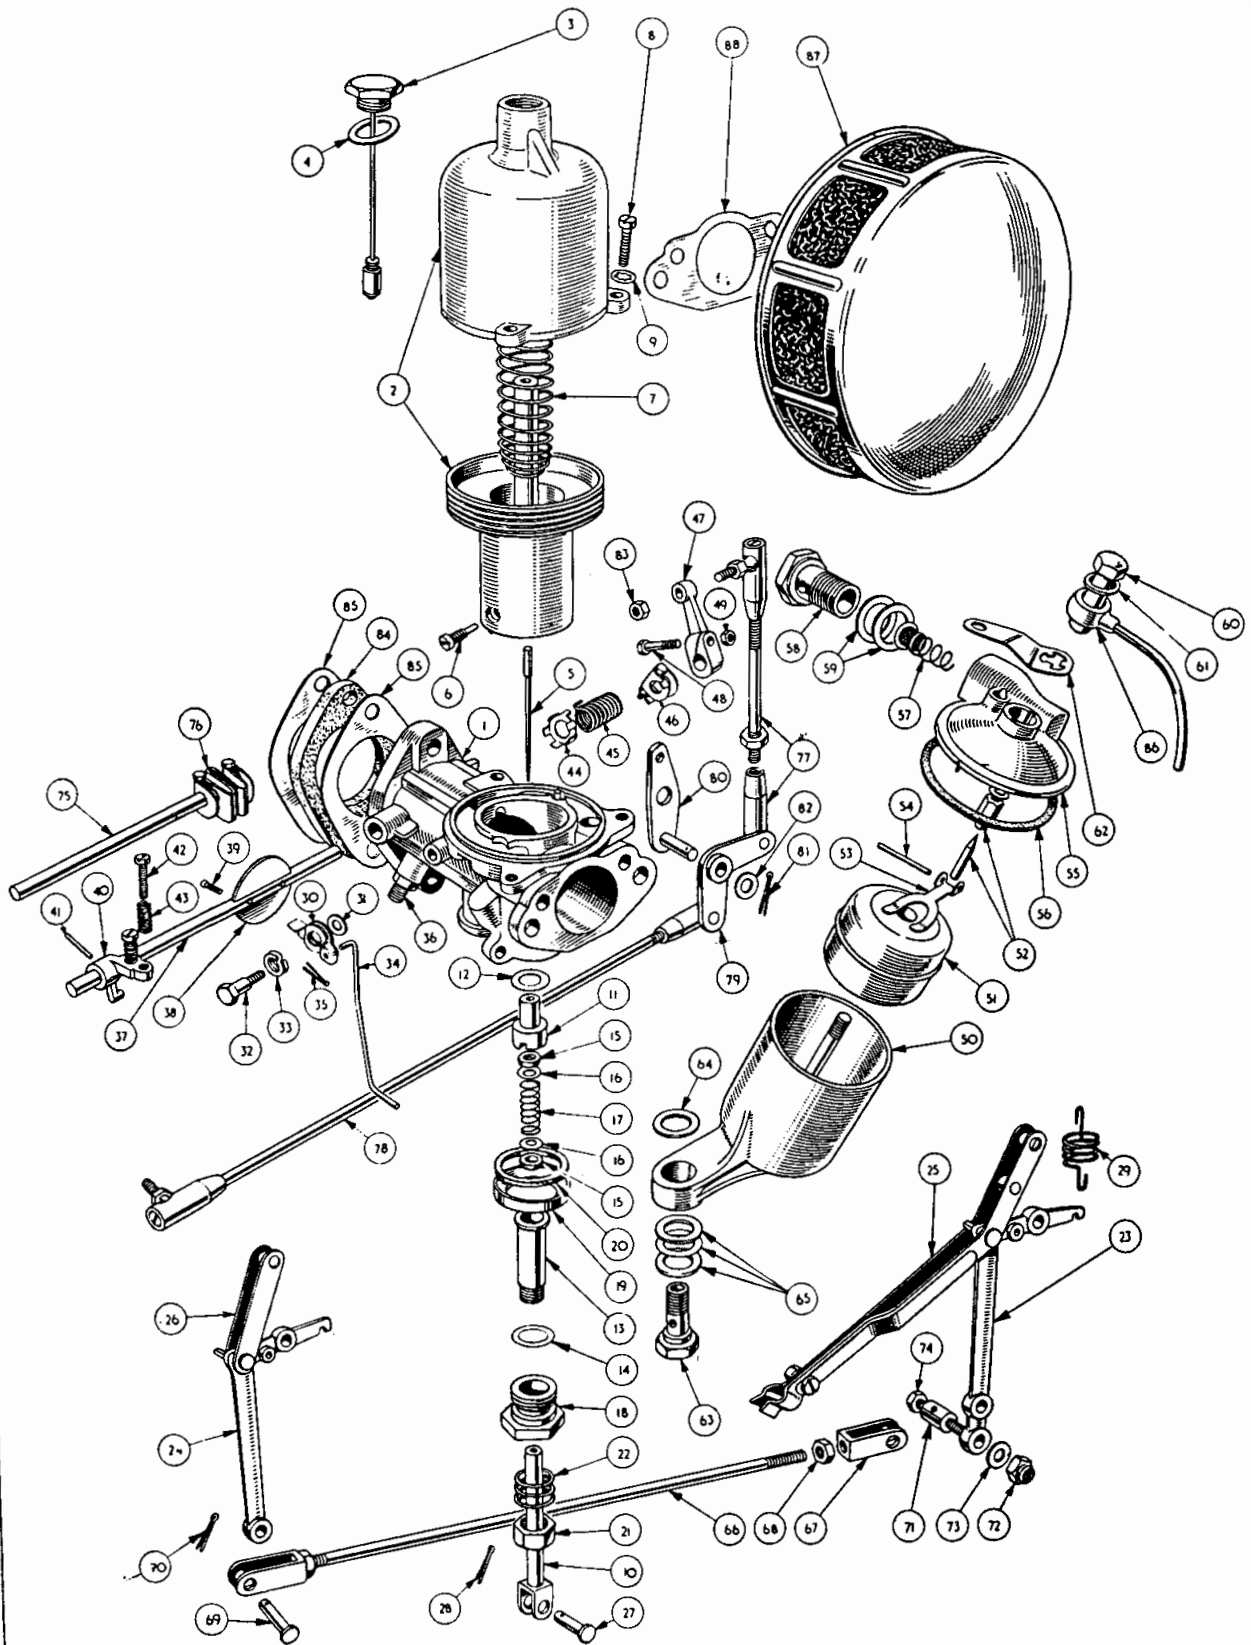

Fig. 10
S.U. CARBURETTOR DETAILS (Fig. 10)